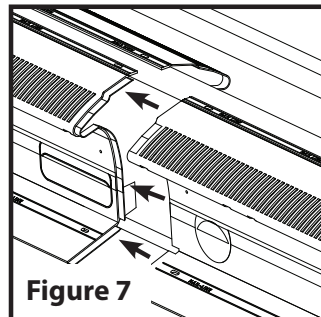
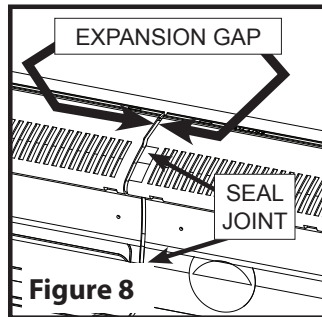

Figure 7
Figure 8
4. The TRV-4 design includes alignment tabs on each end (one male and one female). (See Figure 7) Leave 1/8" gap between each vent to allow for expansion in hot weather. (See Figure 8) Apply sealant on each butt joint to ensure the joint is sealed. For ease of installation and proper alignment it is recommended to start and complete one side of the ridge board and begin on the other side going the opposite direction. This will ensure the entire length of TRV-4 is as straight as possible and will prevent leaks.